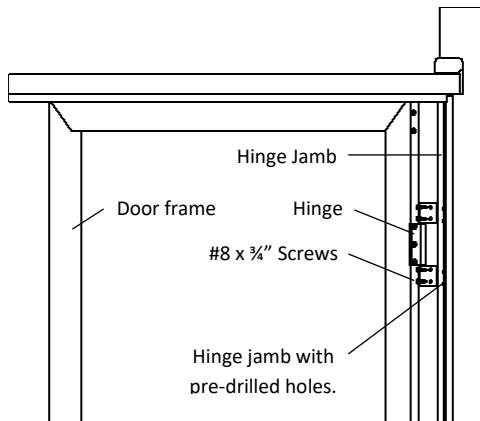

Fig. 5
2. Attach bottom hinge to jamb through predrilled holes. Attach top hinge (already fastened to door) to post through jamb with #8 x 3/4" self-tapping screws in each hole. (Fig. 5) Jamb is predrilled to assist positioning door to jamb and post. Fasten bottom hinge to door. Repeat above procedure for center hinge.
2. Attach bottom hinge to jamb through predrilled holes. Attach top hinge (already fastened to door) to post through jamb with #8 x $\frac{3}{4}$ ” self-tapping screws in each hole. (Fig. 5) Jamb is predrilled to assist positioning door to jamb and post. Fasten bottom hinge to door. Repeat above procedure for center hinge.